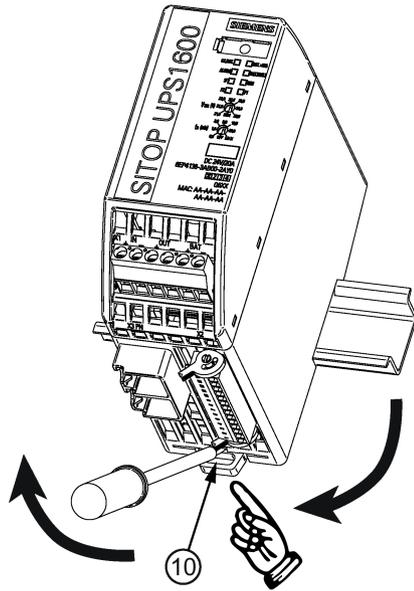

Figure 5-1 Removal (example 6EP4136-3AB00-2AY0)
To remove, carefully open the slider ⑩ using a screwdriver or by hand (see Figure 5-1 Removal (example 6EP4136-3AB00-2AY0) (Page 188)) and disengage the device at the bottom edge of the standard mounting rail. Then you can remove the device from the upper edge of the standard mounting rail.